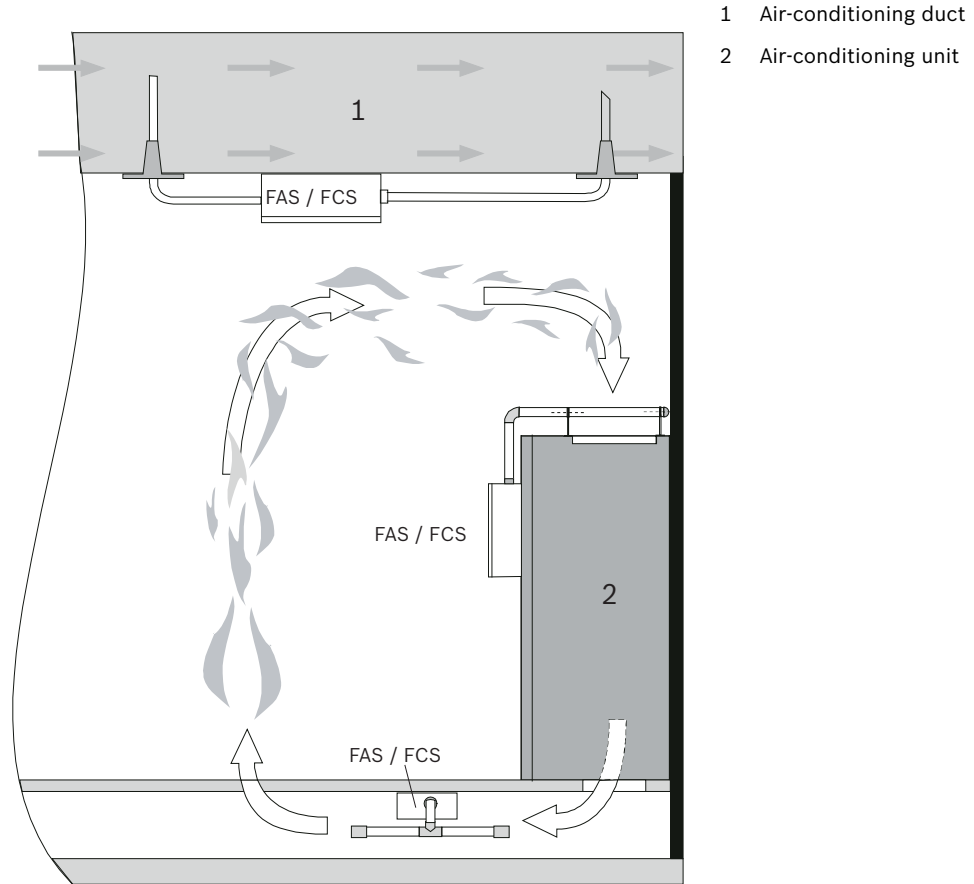

Figure 2.2 Monitoring options for an air-conditioning unit or an air-conditioning duct (depiction of principle)
- On air-conditioning units (Figure 2.2) or